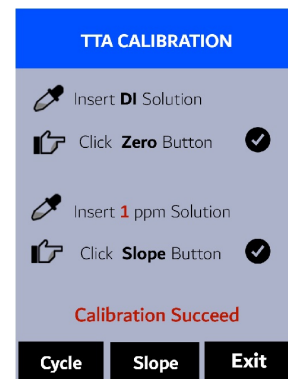

Figure 6.
9. If the calibration succeeds, a checkmark (✔), a "Calibration Success" message will appear (Figure 6). Otherwise, a warning message is displayed.
10. Calibration is now complete. Press **Exit** (OK) to return to measurement mode.